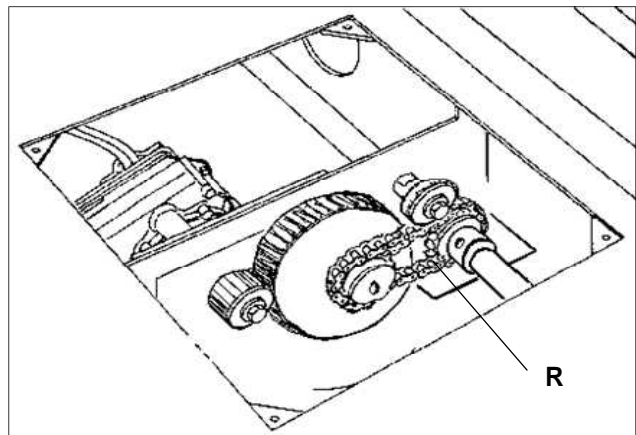

fig.7.14
c.8) Grease the chain (R). see fig.7.14.